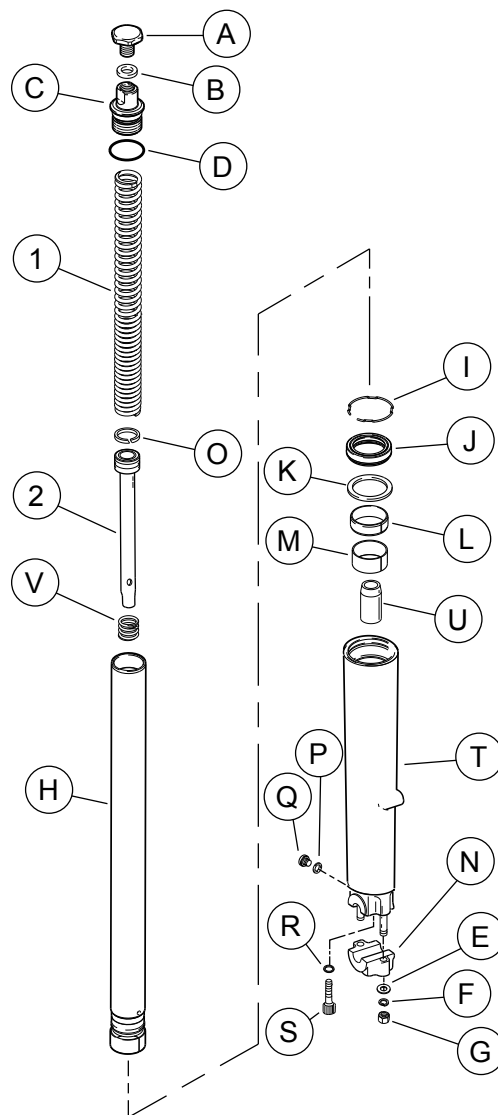

Figure 6. Service Parts: Road King Front End Lowering Kit
2. See Figure 6. Remove nuts (G), lockwashers (F), flat washers (E) and axle holder (N) from studs at end of fork slider (T).
Refer to Figure 6 for Steps 4 - 16.
Refer to Figure 6 for the following procedure.